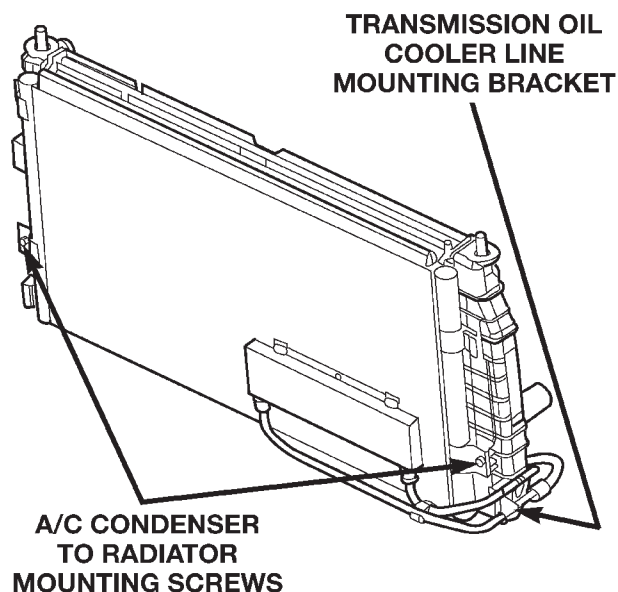

Fig. 20 A/C Condenser To Radiator—Removal and Installation
(9) Remove the air conditioning condenser attaching screws located at the front of the radiator (Fig. 20).
(10) Remove fastener attaching transmission cooler line bracket to left side of radiator (Fig. 20).
(11) Lift condenser upward, only enough to clear upper mounting clips; allow condenser to rest on lower radiator crossmember. It is not necessary to discharge the air conditioning system.
(12) Radiator can now be lifted free from engine compartment. **Care should be taken not to damage radiator cooling fins or water tubes during removal.**
(2) Attach air conditioning condenser to mounting clips on radiator. Install mounting screws and tighten to 5 N·m (45 in. lbs.) (Fig. 20).
(3) Connect lower radiator hose and clamp.
(4) Install transmission cooler line bracket and attaching fastener. Connect automatic transmission hoses; torque hose clamps to 2.5 N·m (22 in. lbs.).
(5) Install fan module.
(6) Connect fan motor electrical connector.
(7) Connect engine oil cooler lines (if equipped).
(8) Install upper radiator hose. Align hose so it does not interfere with the accessory drive belt or engine. Position hose clamp so it will not interfere with the hood liner.